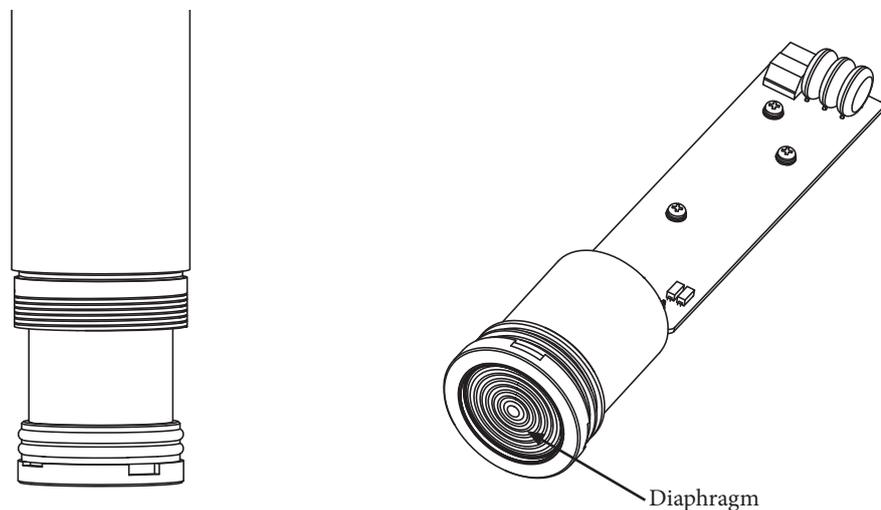

Fig. 9-7. Disassembling the housing and meterbody
- (3) When the meterbody is pulled out so that it can be held by hand, pull it out completely. To prevent any damage, be careful not to apply excessive force to the diaphragm. (➡ Fig. 9-7)